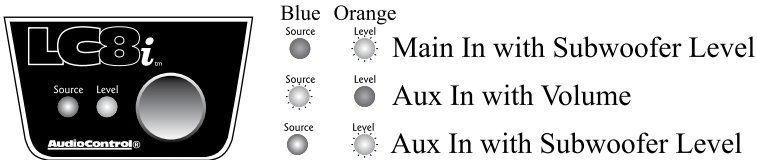

Figure 9: Dash Control LEDs
8. Remote Source/Level Control: This multi-function dash control allows you to select the input source and set the level of the subwoofer. It also controls the auxiliary input volume. “Source” and “Level” LEDs let you know the status of the controls. See Figure 9: Dash control LEDs for an explanation of LED functions.